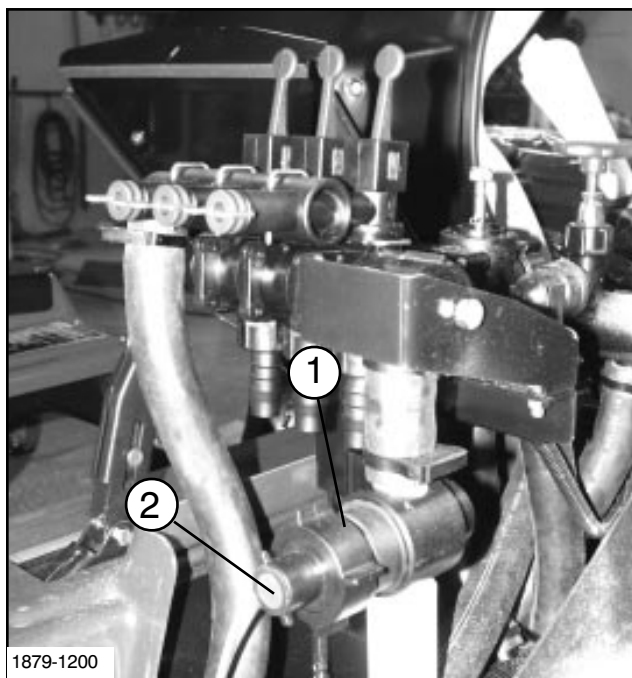

FIG. 3
6. FLOWMETER: Measures amount of fluid flowing to Boom Control Valves. See FIG. 3.